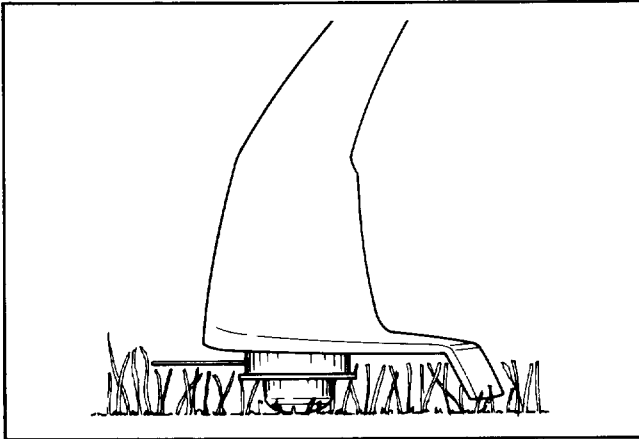

Figure 16
8. **Never drag the trimmer spool cap on the ground while trimming (Fig. 16). This causes unnecessary battery drain and spool cap wear.**